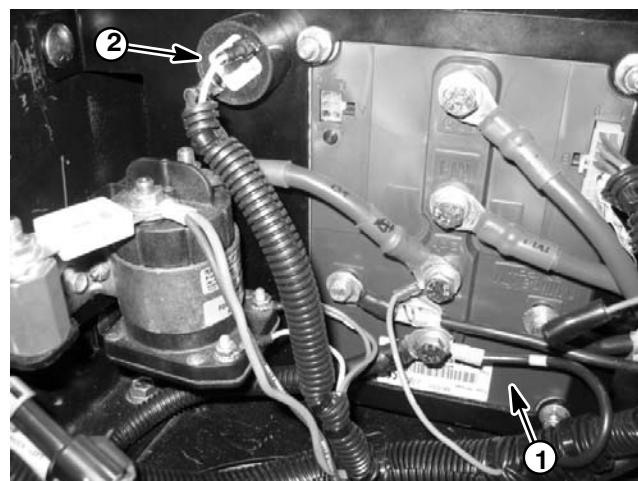

Figure 28
2. Disconnect wire harness connectors from alarm (Fig. 28). Using jumper wires, correctly connect 12VDC source to the alarm terminals noting polarity shown on alarm decal.